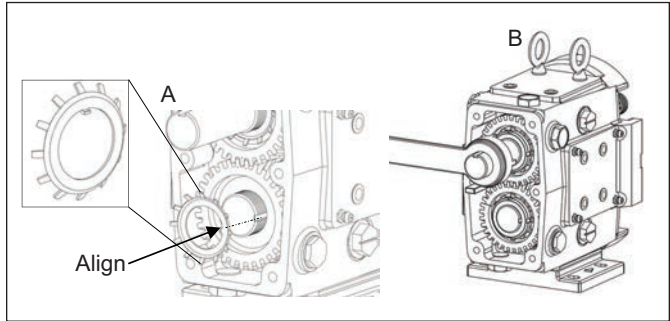

Figure 54. Installing Lock Washer and Lock Nut
- Install the lock washers on the shaft by aligning the tab inside the lock washer with the slot in the shaft (Figure 54, A). Lubricate the threads of the lock nuts and thread them on the shafts. Using a spanner wrench, tighten them to the specified torque in Table 6. Use a wedge (wood or plastic) between the gear teeth to keep the shafts from turning while tightening the lock nuts (Figure 54, B).